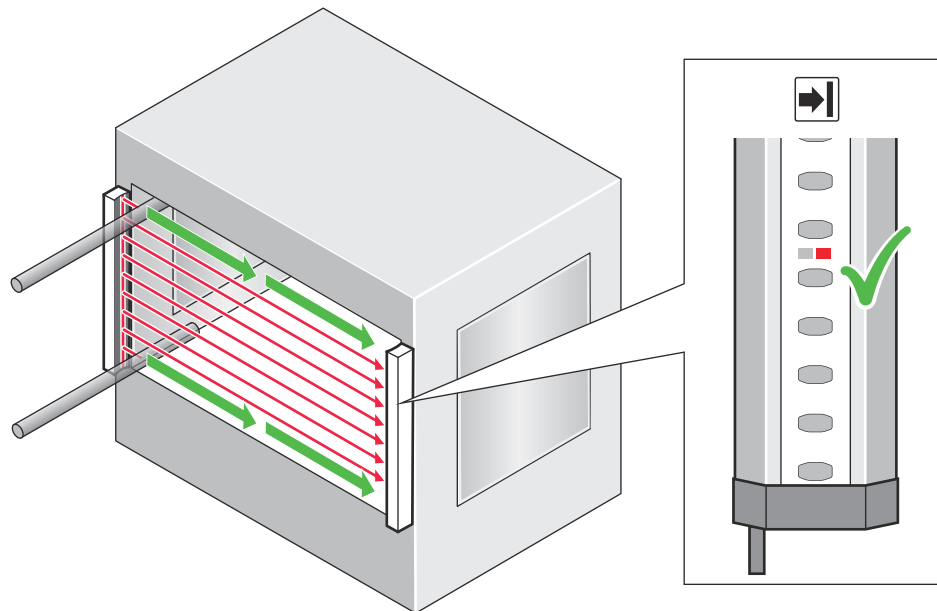

Figure 19: Test rod check: Step 3
3. Then, guide the test rod along the edges of the area to be protected, as indicated by the arrow, see figure 19.